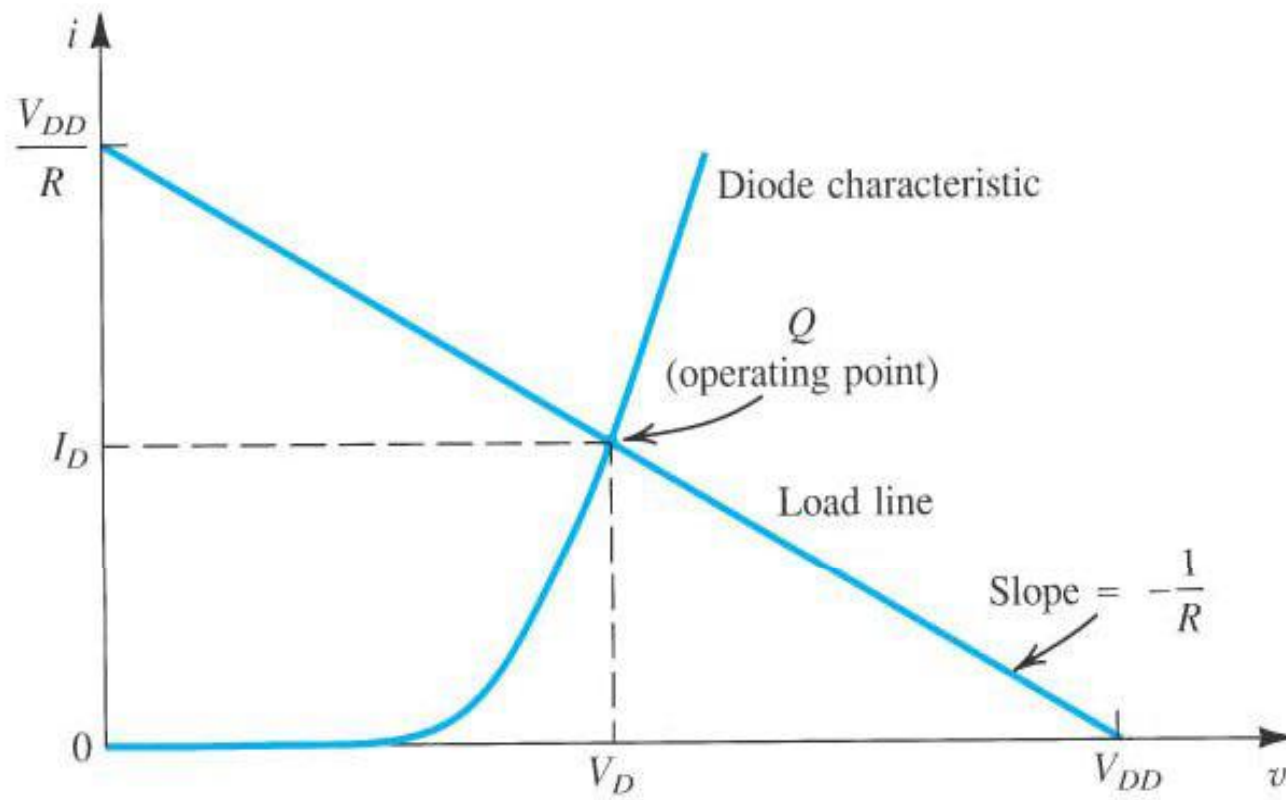

Figure 3.11 Graphical analysis of the circuit in Fig. 3.10 using the exponential diode model.
- A sketch of the construction is shown in Fig. 3.11.